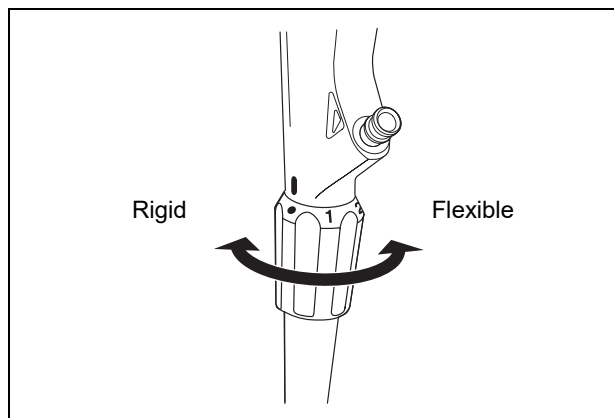

Figure 4.4
1. Before inserting or withdrawing the endoscope, set the insertion section to an appropriate level of flexibility by turning the flexibility adjustment ring as required (see Figure 4.4).